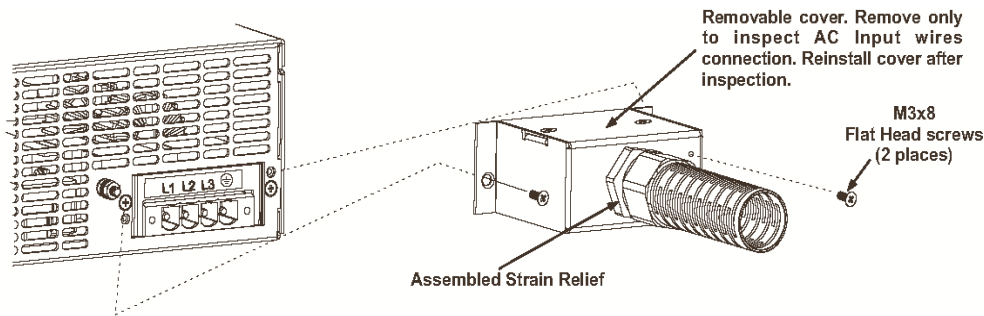

Fig.3-4: AC input cover and strain relief
- f) Route the wires inside the cover to prevent pinching. Fasten the cover to the unit using the M3x8 Flat Head screws are provided. Refer to Fig.3-4 for details. Tighten screws securely (4.8 - 4.9LB-inch, 0.54 - 0.55 Nm)